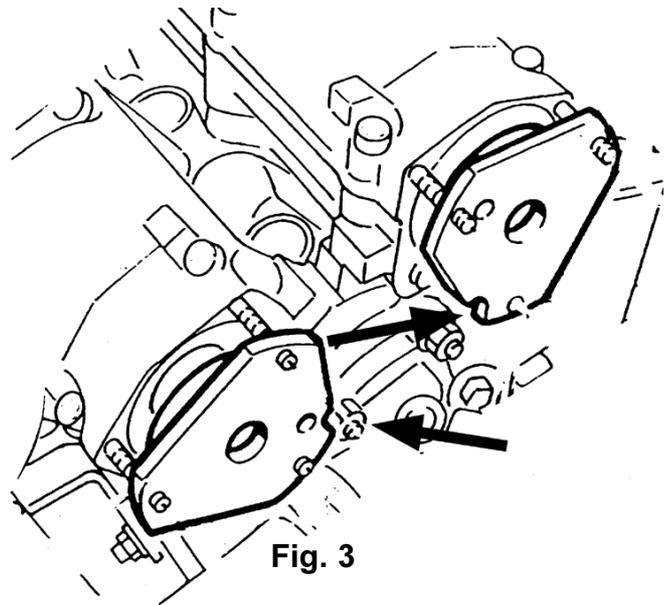

Fig. 3
**IMPORTANT:** To ensure the correct Plate is fitted to appropriate camshaft and correct camshaft position has been achieved, the 'notch' on the side of the Plate MUST align to the blanking plug on the camshaft housing (fig. 3).